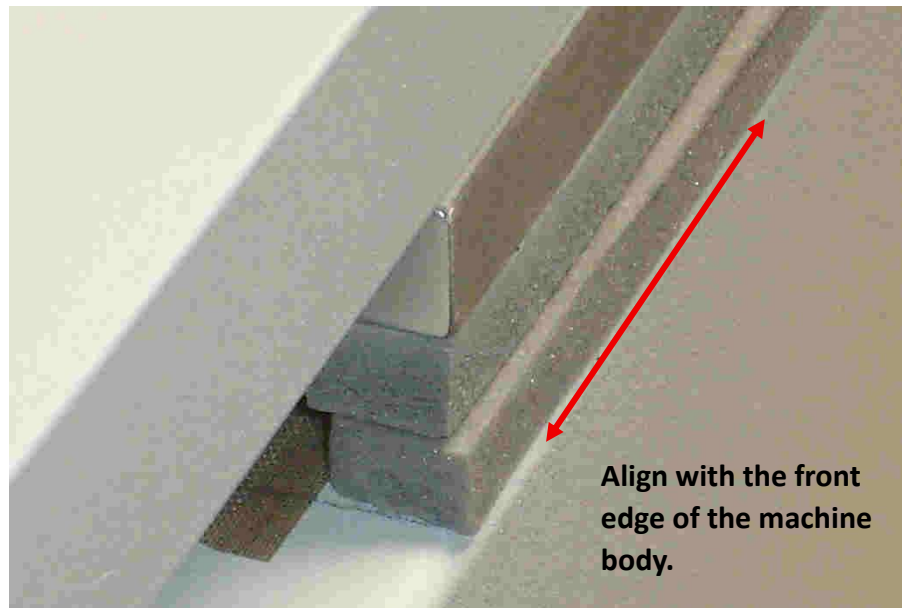

Figure 15
3. Remove backing from the remaining rubber strip and **line up with the front edge of the machine body**. Press into place without stretching. Do not align with the upper rubber on the pressure bar. See Figure 15.